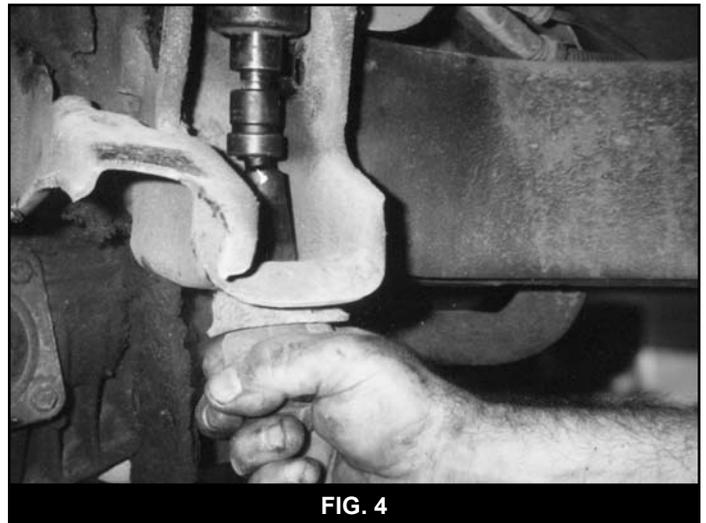

FIG. 4
14. Remove the front bump stops below the rear upper control arm pocket. (Fig. 4) These will be reused.